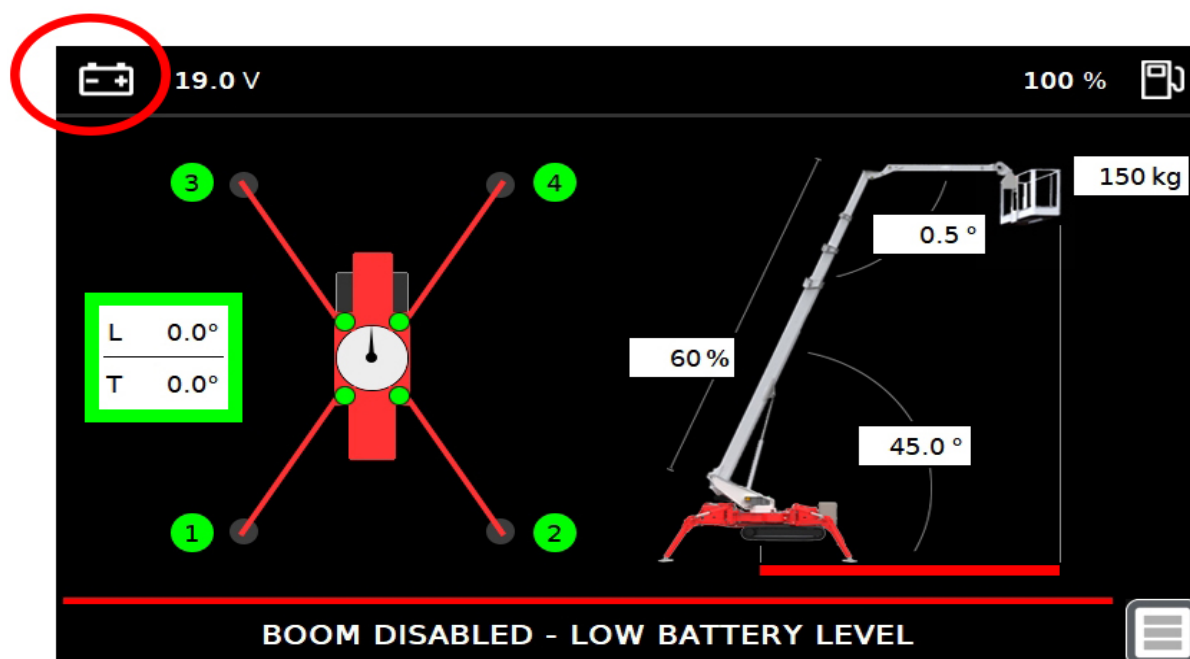

Fig 5
2. The battery charge by the indication on the display, red circle Fig. 5. If the voltage is lower than 21,5 V the display will shows the following screen with the information message (Fig 5).